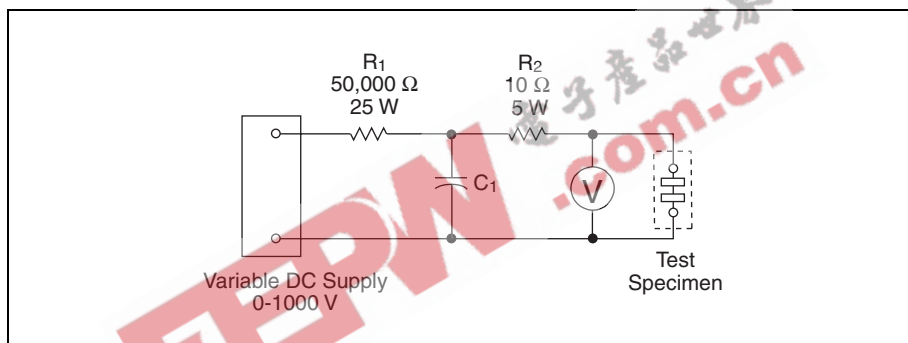

Figure 4.12 UL 497B Strike Voltage Breakdown Test
1. Strike Voltage Breakdown Test — Protectors are required to break down within the manufacturer's specified breakdown range or within 10% of a nominal single breakdown voltage rating. (Figure 4.12)